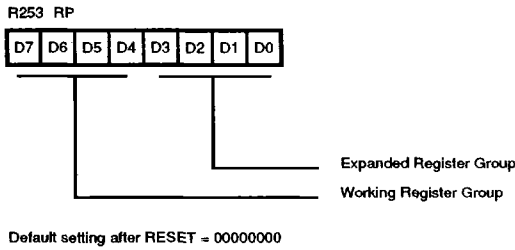

Figure 8. Register Pointer Register
Bits 3:0 of the Register Pointer (RP) select the active ERF group. Bits 7:4 of register RP select the working register group (Figure 8). Two system configuration registers reside in the Expanded Register File at bank F. The rest of the Expanded Register is not physically implemented and is open for future expansion.